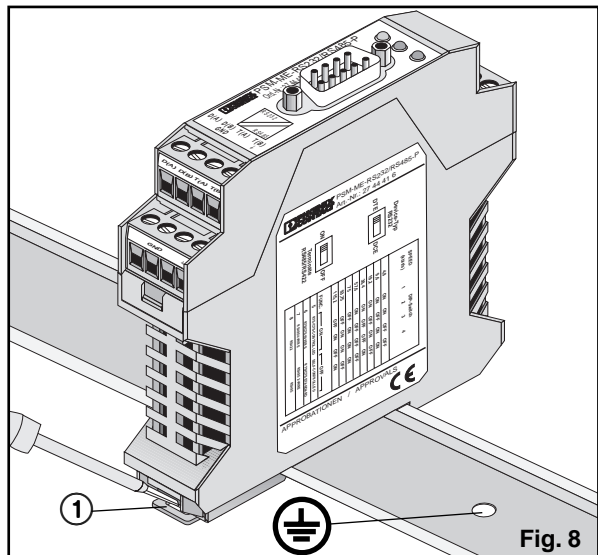

Fig. 8
5.2. Mounting in the switch cabinet (fig. 8)